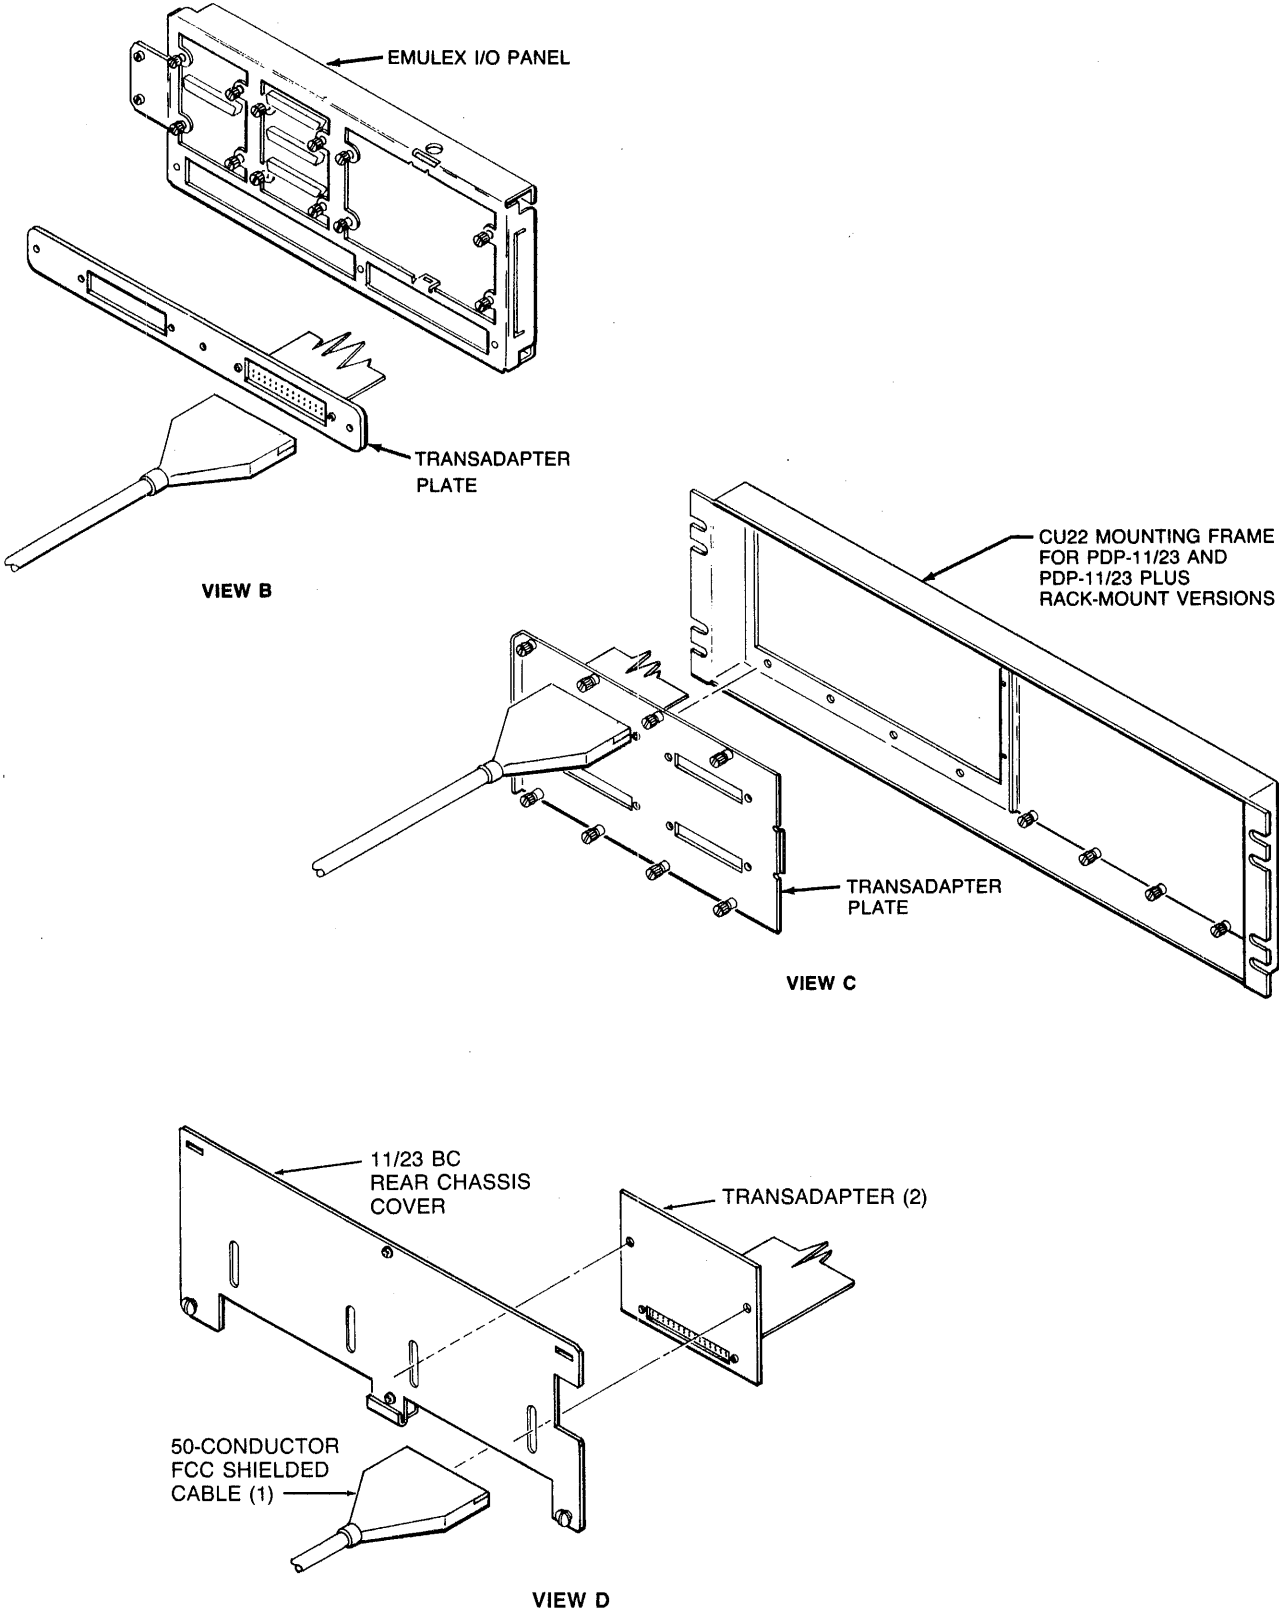

Figure 3-8. Cabling the UC03, Views B, C, and D
- Figure 3-8, View B shows the MICRO/PDP-11 Cabling Kit used with a MICRO/PDP-11 and an Emulex patch panel.
- Figure 3-8, View C shows the Universal RETMA Rack-Mount Cabling Kit used with a rack-mount PDP-11/23 or PDP-11/23 PLUS and mounting frame.
- Figure 3-8, View D shows the Chassis Mount Cabling Kit used with an LSI-11/231BC chassis.